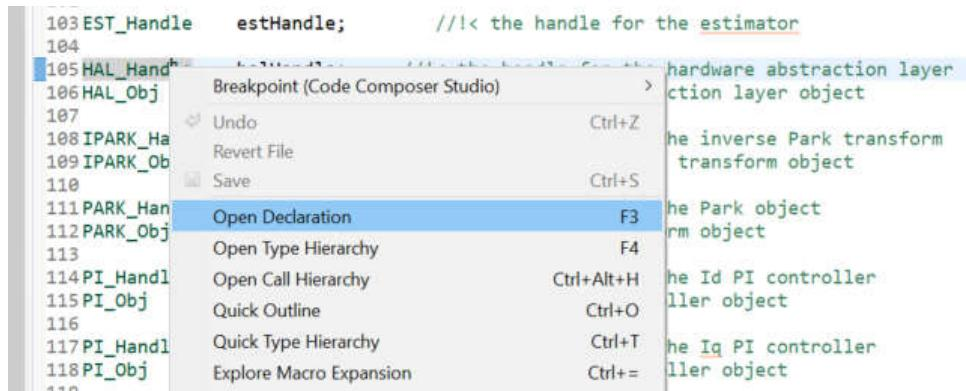

Figure 10: Opening the declaration for the HAL_Handle
1. In the file “is01_intro_hal.c” right-mouse click on HAL_Handle and select “Open Declaration” as shown in **Figure 10**.